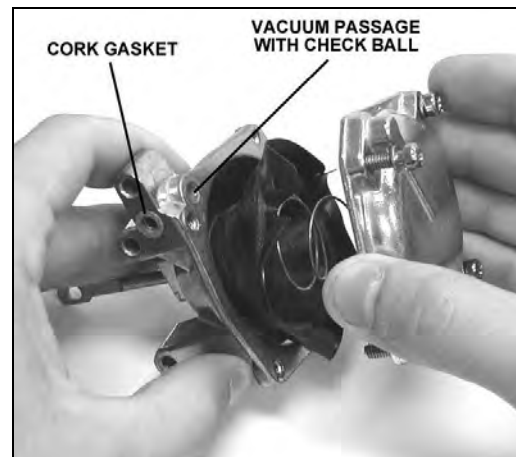

Figure 14
5. Gently remove the cover. Take care as not to tear the diaphragm or loose the check ball (Figure 14).